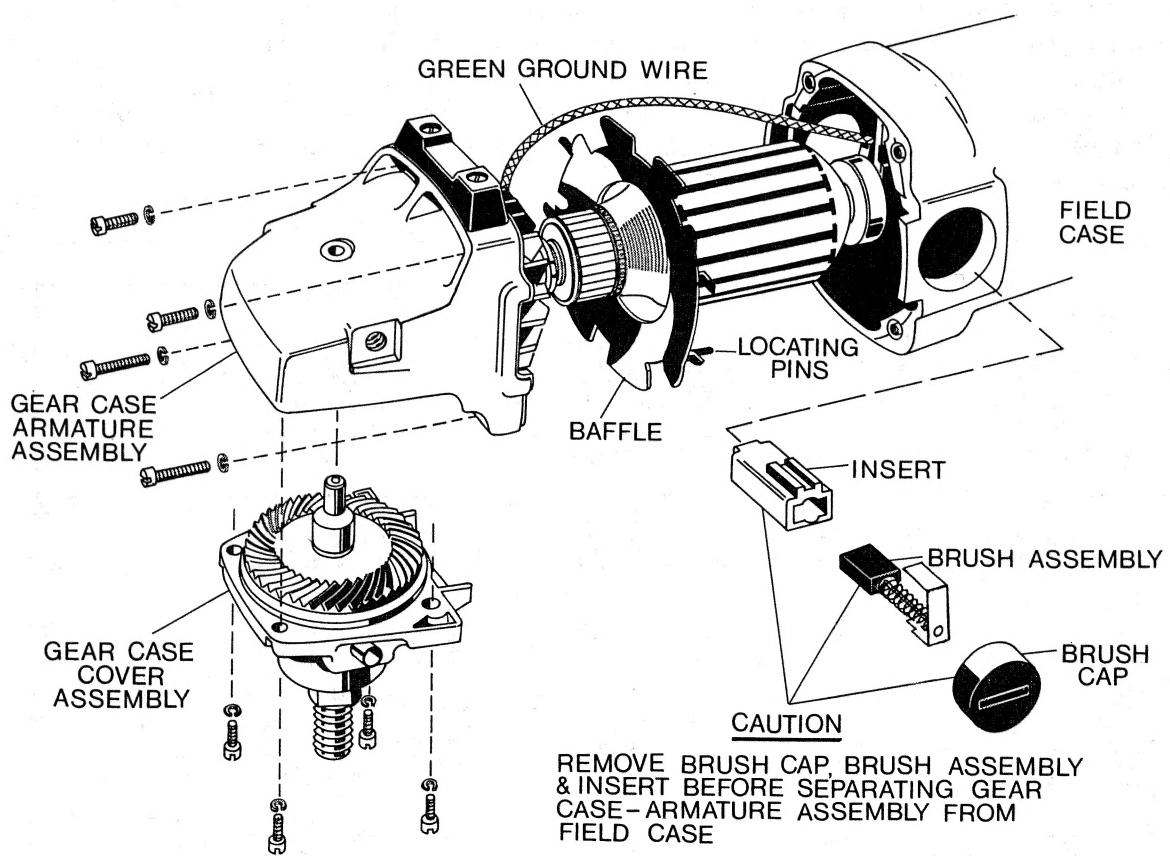

Figure 16
## See Figure 16
- 3) Remove Brush Caps, Brush Assemblies and Brass Inserts. (See Figure 16).
- 4) Remove the (4) screws holding the Gear Case-Armature Assembly to the Field Case.